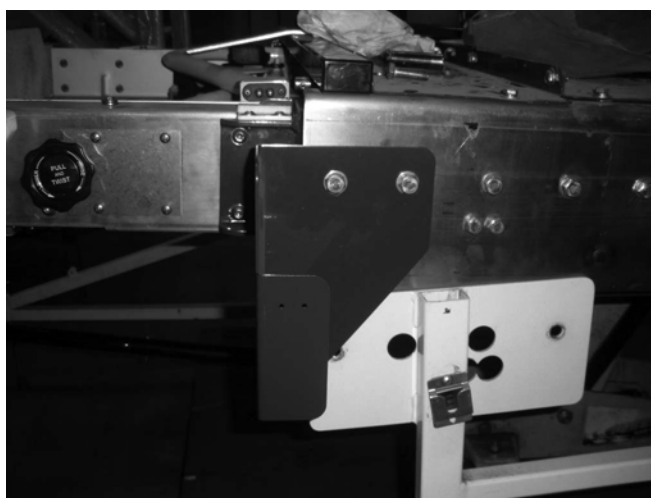

FIGURE 2: REMOVAL OF PENDANT BRACKET
1. Refer to **Figure 2**. Remove and discard (2) 5/16-18 x 1 3/4 hex screws, (2) lock washers and (2) flat washers to detach Pendant Bracket (P/N 20226). Retain Pendant Bracket for installation onto Stow-Lock.